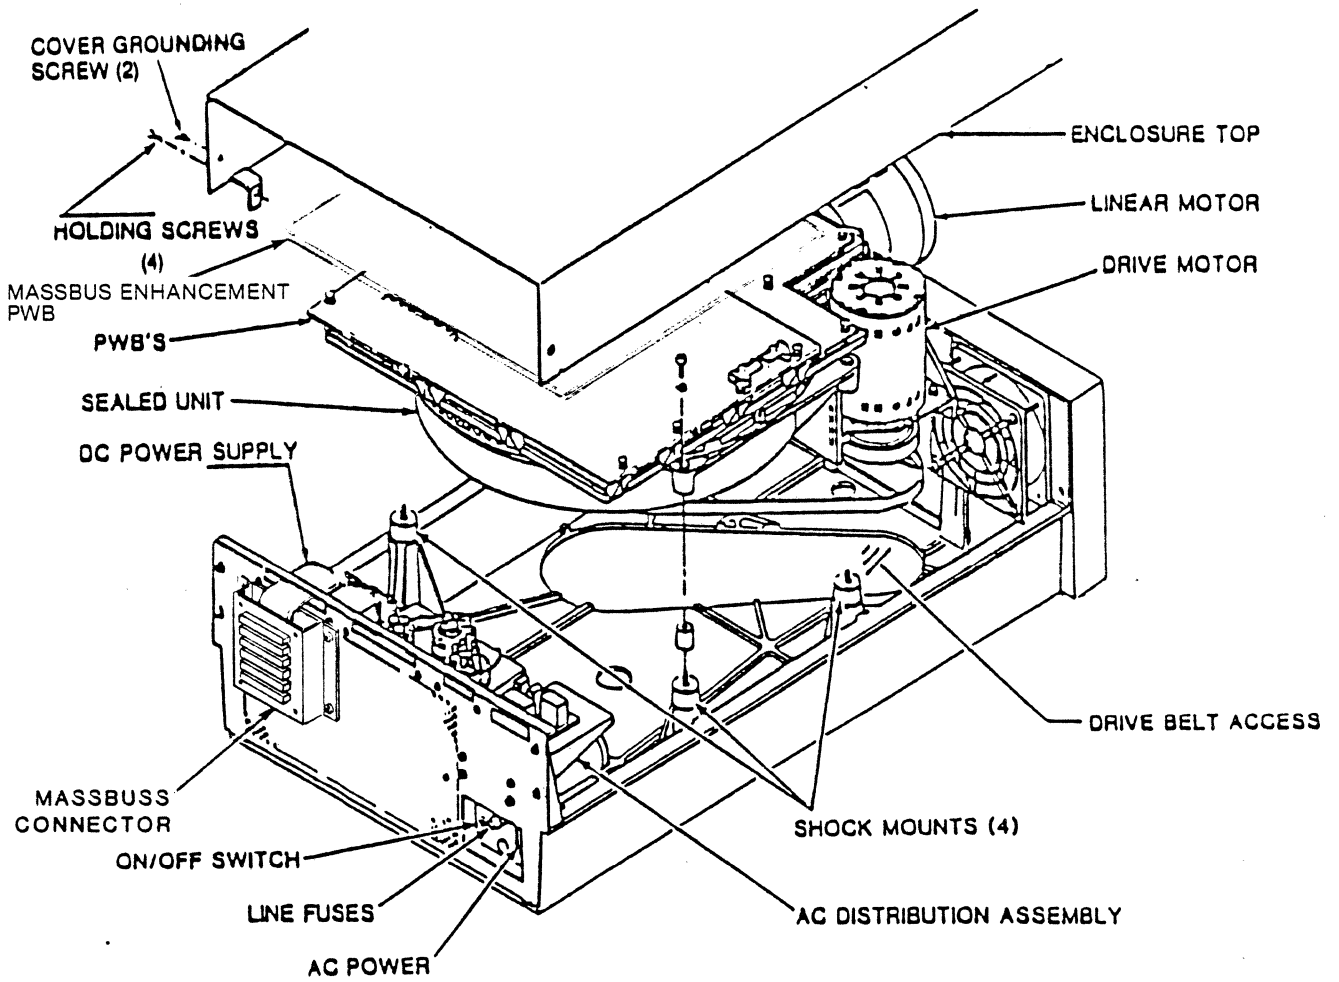

Figure 2-2. Disk Drive with Enclosure
5. Remove the enclosure top by removing the six phillips-head screws (two at the front corners and two on each side (front and back) see Figure 2-2. Lift top up and off.